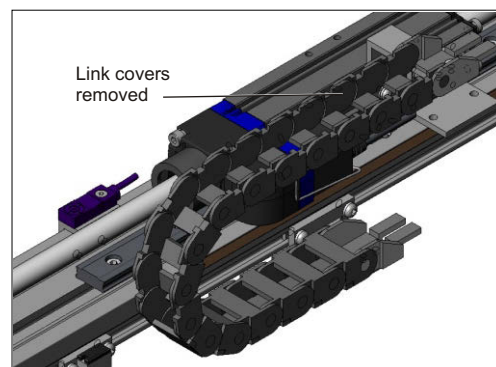

Figure 3.2
- They can be removed as a single item by progressively pulling up the tongue of the first cover until all are unclipped, see Figure 3.2.